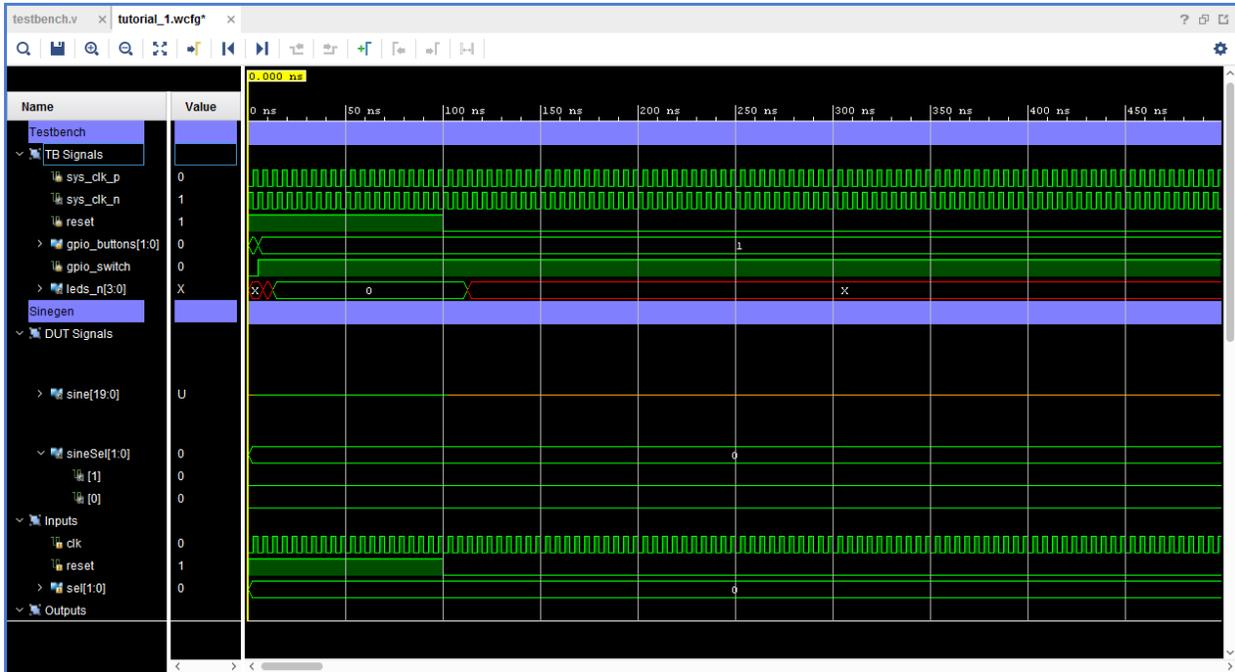

Figure 26: Viewing Reset and Clock Signals
8. Continue to zoom in the Waveform window as needed, until you can see the `reset` signal asserted low, and you can see the waveform of the clock signals, `sys_clk_p` and `sys_clk_n`, as seen in Figure 26.